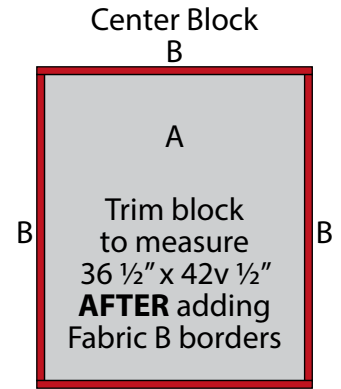

Fig. 1 B
1. Sew (1) $2'' \times 40\frac{1}{2}''$ Fabric B strip to each side of the $34\frac{1}{2}'' \times 40\frac{1}{2}''$ Fabric A rectangle. Sew (1) $2'' \times 37\frac{1}{2}''$ Fabric B strip to the top and to the bottom of the Fabric A rectangle to make the Center Block (Fig. 1). **Trim the block to measure $36\frac{1}{2}'' \times 42\frac{1}{2}''$.**